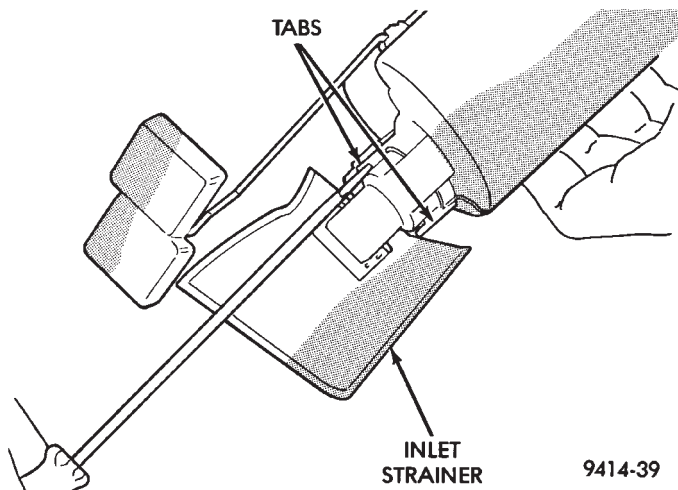

Fig. 19 Inlet Strainer Removal
- (1) Remove fuel pump module. Refer to Fuel Pump Module Removal in this section.
- (2) Using a thin straight blade screwdriver, carefully pry back the locking tabs on fuel pump reservoir and remove the strainer (Fig. 19).
- (3) Remove strainer O-ring from the fuel pump reservoir body.
- (4) Remove any contaminants by washing the inside of the fuel tank.